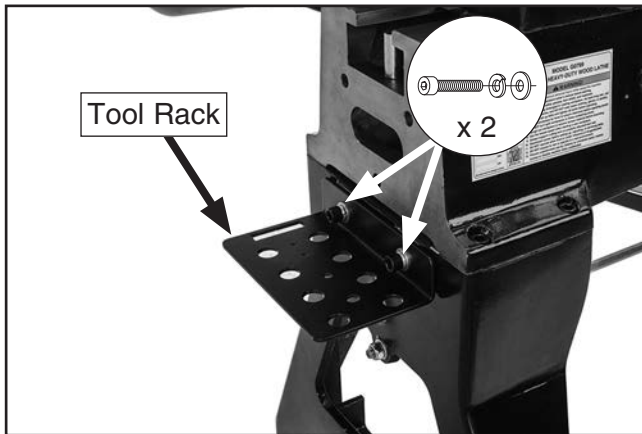

Figure 23. Tool rack mounted at end of bed.
20. Use (2) M12-1.75 x 20 cap screws, (2) 12mm flat washers, and (2) 12mm lock washers to install tool rack at end of lathe bed (see **Figure 23**).